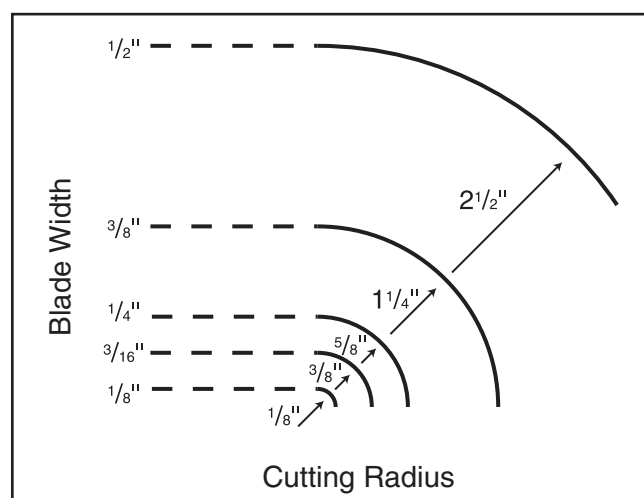

Figure 81. Blade width radii.
- **Curve Cutting:** Use the chart in **Figure 81** to determine the correct blade for curve cutting. Determine the smallest radius curve that will be cut on your workpiece and use the corresponding blade width.